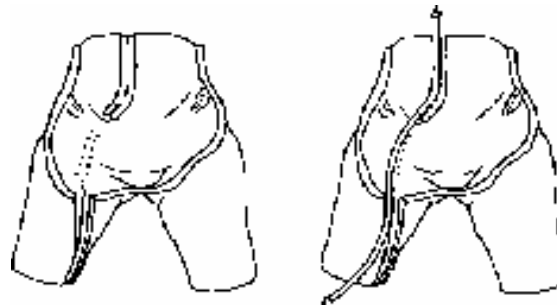

Fig. 5
6. Tack glue new tubes into the tracks with adhesive. (Figure 5)